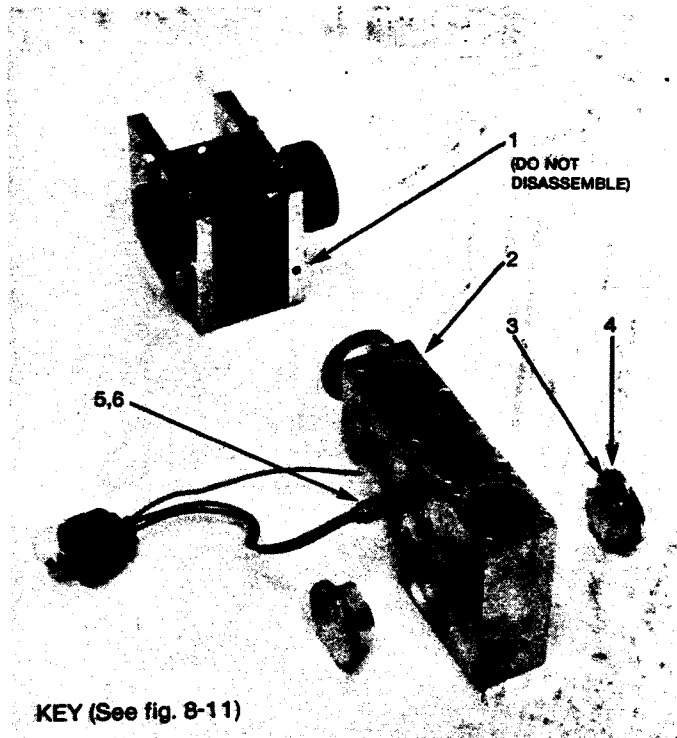

Figure 6-10 Magnet Assembly, Heater
1. Remove the three electrical plugs at the top of the spectrometer tube. Unplug the spectrometer tube heater. Loosen the compression fitting and remove the spectrometer tube to a convenient bench. (Figure 6-10 is an "exploded" view of the spectrometer tube.)